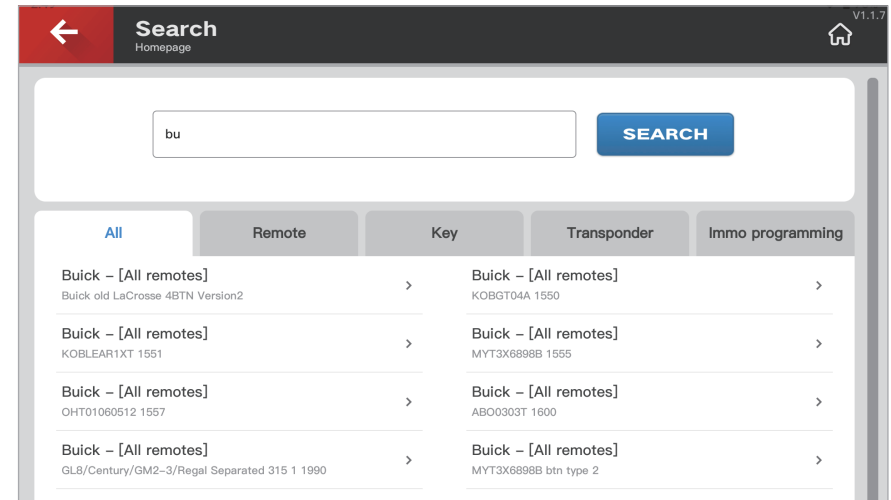

Fig.4.11
**Searching icon:** Type in the car model to quickly search its programming options on remote, key, transponder and immo programming. See Fig. 4.11